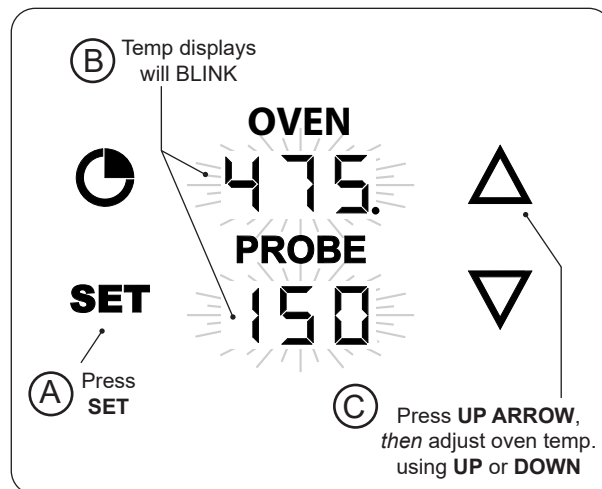

Fig. 40-1 Set grilling temp.
1. With the thermometer **on**, press the **SET** button once. The **OVEN** and **PROBE** displays will blink. (While blinking, either area can be selected to enter their settings.) See Fig. 40-1, A and B.
2. Press the **UP ARROW** to select the oven temp settings, then use the up or down arrows to set the desired temp. (Fig. 40-1, C).